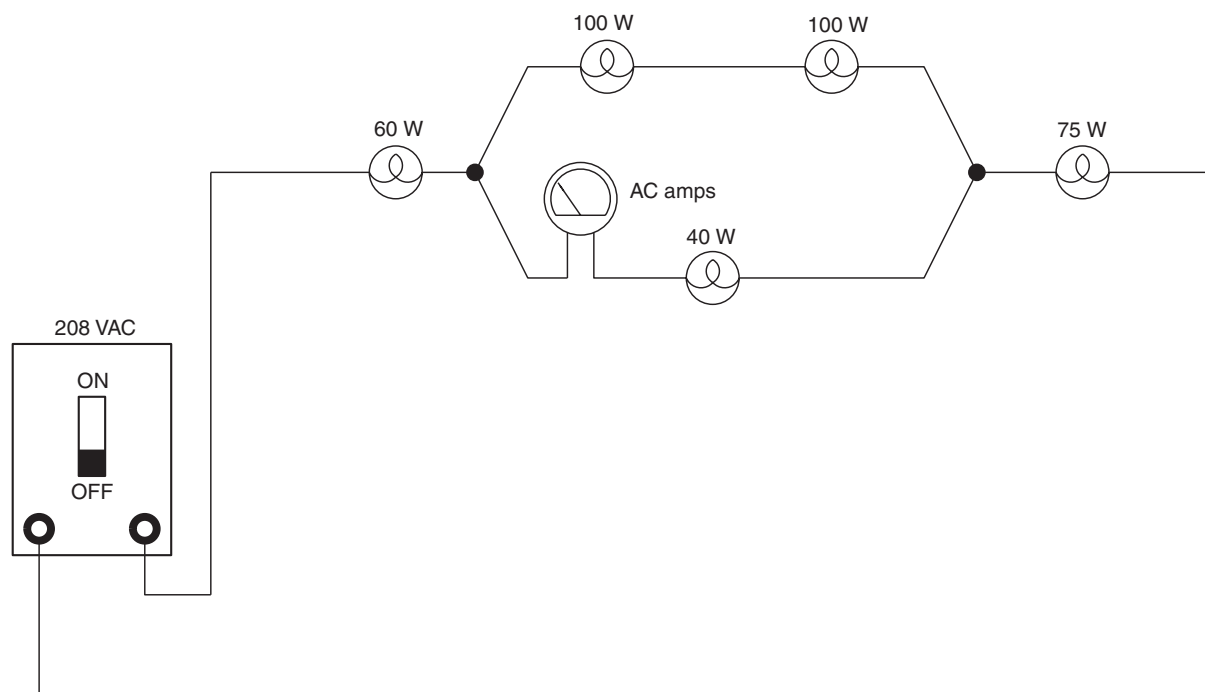

Figure 5-17 Measuring current through the 40 watt lamp.
10. Reconnect the ammeter to measure the current flow through the 40 watt lamp (Figure 5-17). After the ammeter connection has been made, turn on the power and measure the current.